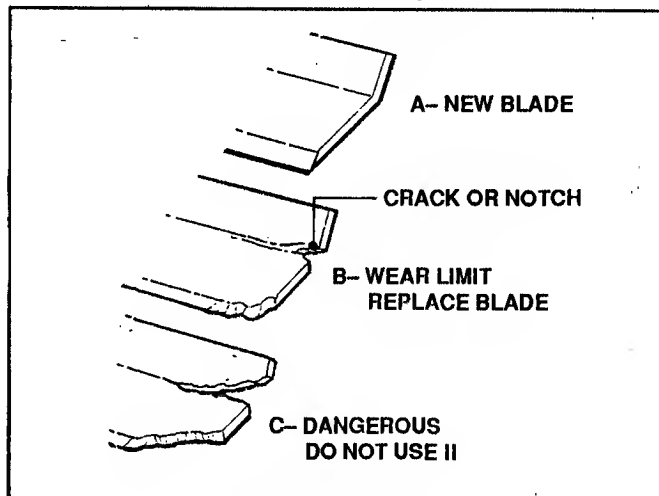

FIGURE 4.19
1. Inspect blade frequently for signs of excessive wear or damage. See Figure 4.19.
Never use a cutting blade that shows signs of excessive wear or damage on the Rear Engine Rider. Refer to Figure 4.19.
3. Inspect condition of blade. Refer to Figure 4.19.